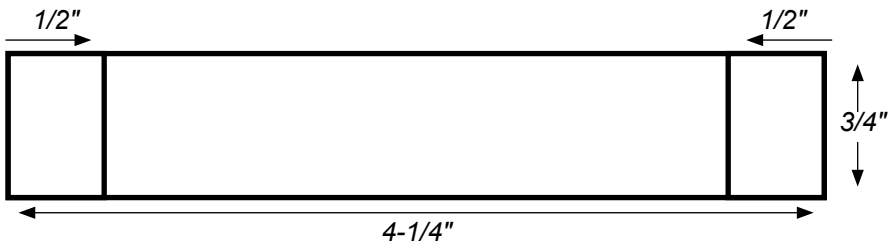

Figure 1
- 1) From one of the body base cards, use the craft knife to cut out a piece that is $3/4"$ x $4-1/4"$. Draw a line across the piece a half inch from each narrow end (Figure 1). Using the hobby knife, carefully score (cut approximately halfway through the material) where the lines are drawn.